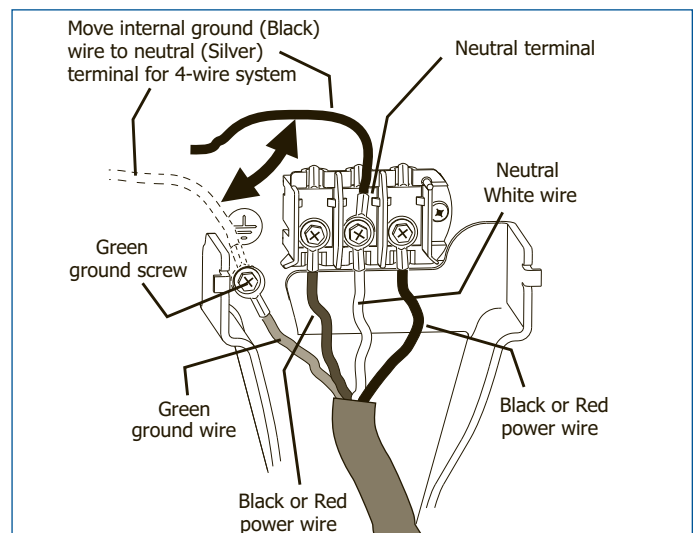

Figure 2-12.
5. Disconnect the internal (BLACK) dryer harness ground wire from the (GREEN) ground screw next to the terminal block. (See Figure 2-12)